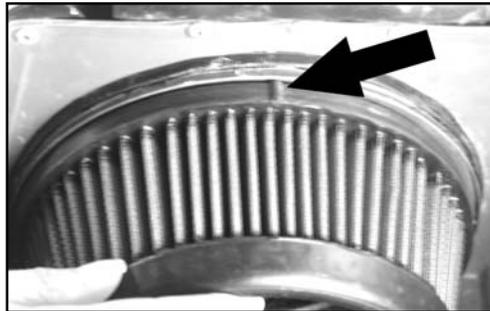

Fig. 2
4. Install the K&N Air Filter into the air box. (Fig. 2)
**Note:** The notch on the K&N Air Filter will be at the top center of the air box. (Fig. 2)